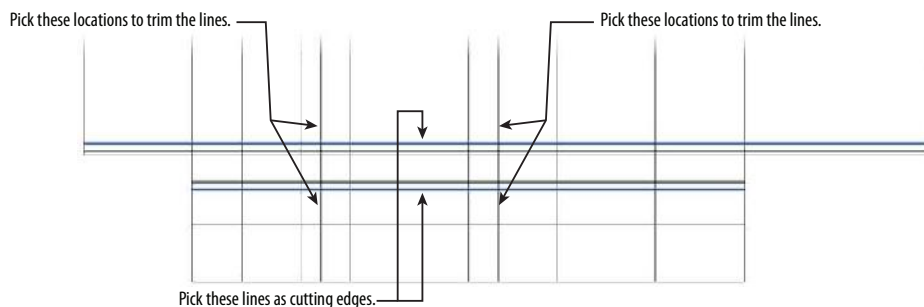

FIGURE 10.12: The cutting edges for trimming the roof extension, and selecting the trim points
9. Start the TRIM command, and select the two horizontal lines highlighted in Figure 10.12.
10. After choosing the cutting edges, pick the vertical lines above and below the cutting edges, as shown in Figure 10.12, to trim the construction lines.